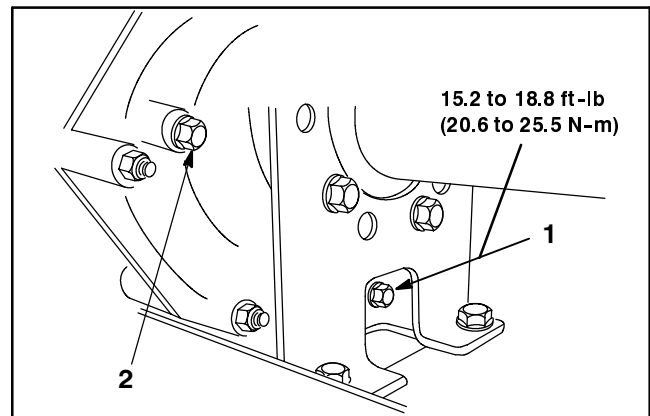

Figure 16
2. Remove drain plug from the right side of the transaxle case. (Fig. 16) Let fluid flow into a drain pan.
3. When fluid stops draining, reinstall and tighten drain plug (Fig. 16). Torque plug from 15.2 to 18.8 ft-lb (20.6 to 25.5 N-m).
- B. Or, fill case until oil level is at the bottom level of the indicator hole with the plug removed (Fig. 16).
5. Reinstall level indicating plug and fill cap. Tighten plugs that were removed (Fig. 16 and 17).